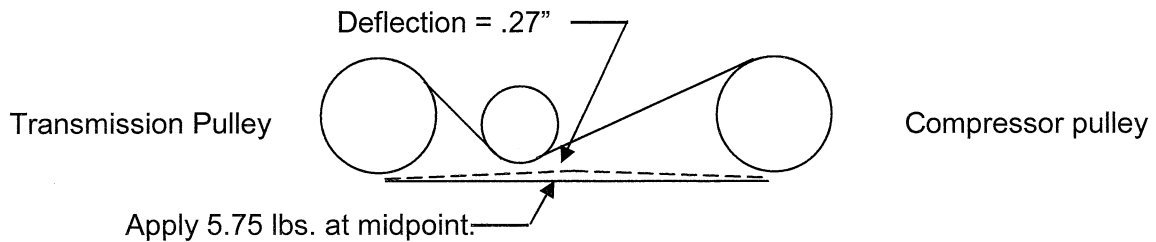

Figure 2.4
9. Install new ES35427-1 Poly-V Belt on the air conditioner drive pulleys and tension the belt using the 412AC-3012-3 Link Assy. The correct belt tension is achieved when 5.75 lbs. of force at the mid span of the belt produces .27" deflection. (It is recommended that a belt tensioning gauge be used during the installation of this belt. Kent-Moore BT-33-73F or equivalent). (Figure 2.4) (See Page 11 of 11 for use of Belt Tension Tester).